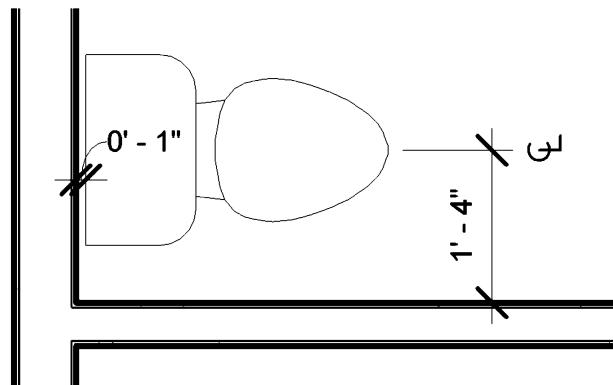

FIGURE 12-1.2 Toilet location
4. **Place** the toilet in the middle of the room and then *Move* and *Rotate* into place utilizing *Snaps* (Figure 12-1.2).